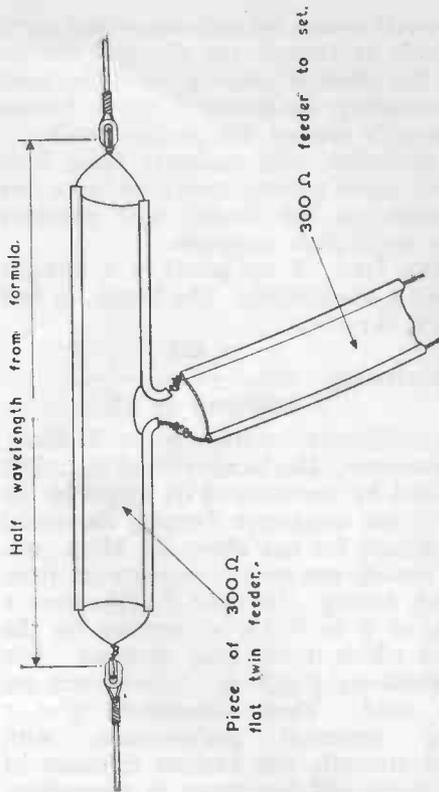

Fig. 18.2 Folded dipole.
#### (2) FOLDED DIPOLE (see Fig. 18-2)